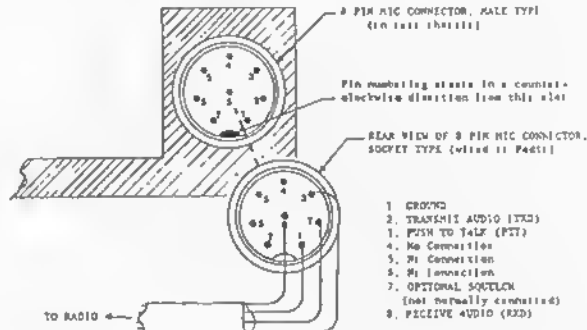

Figure 2-1 Radio-to-PK-88 Connections
- o Verify that your radio and PK-88 are connected as shown in Table 2-1 earlier in this manual, and Figure 2-1 below.
2. Connect the PK-88 and FM radio as shown below in Figure 2-1.
1. Connect the PK-88 and SSB radio as shown in Figure 2-1.